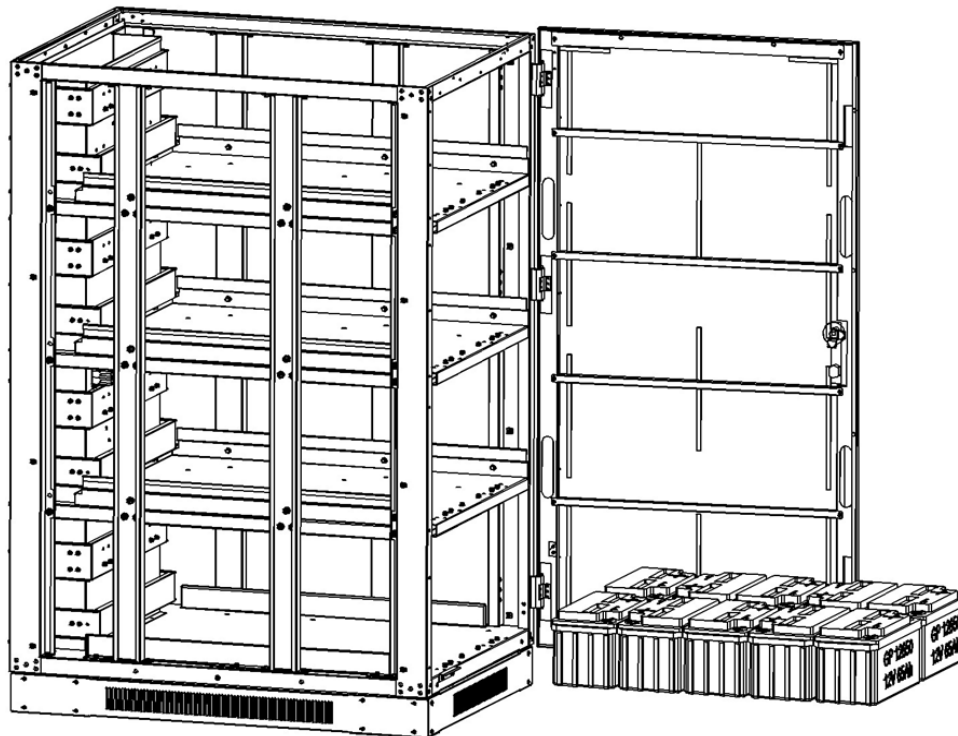
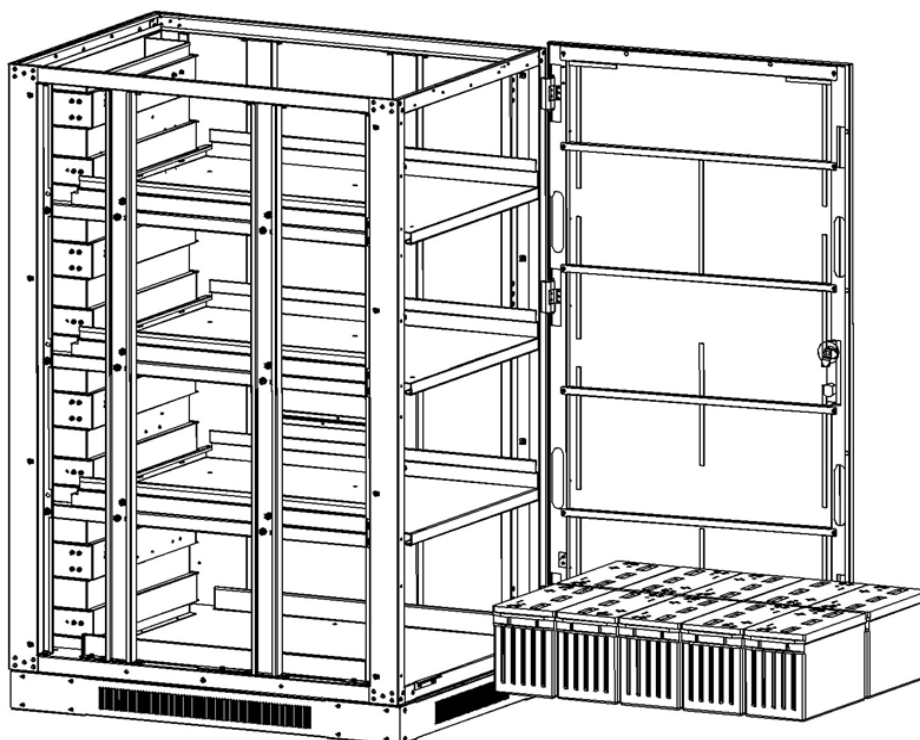

Figure 5-31: Model BP240V65L-NIB
Figure 5-32: Model BP240V100L-NIB
4. Install 10 battery packs in layer 1 (Figure 5-31: Model BP240V65L-NIB or Figure 5-32: Model BP240V100L-NIB).